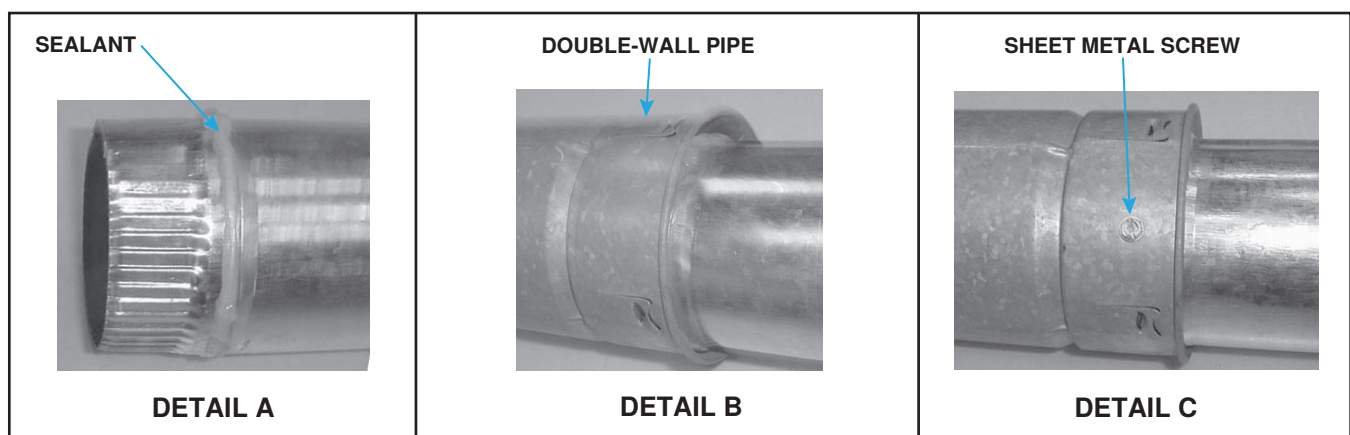

Figure 11. Connecting Double-Wall (Type B) Pipe to Single-Wall or Category III Vent Pipe
- Apply continual 1/4-inch bead of silicone sealant (see Figure 11, DETAIL A) around circumference of pipe.
- Before sealant has any time to dry, insert pipe with sealant into inner wall of double-wall pipe (see Figure 11, DETAIL B) until bead of sealant contacts inner pipe to create sealed joint.
- Drill three small holes—spaced equally around double-wall pipe—below sealant ring (see Figure 11, DETAIL C) and insert 3/4-inch-long sheet metal screws to secure joint. Do not overtighten screws.